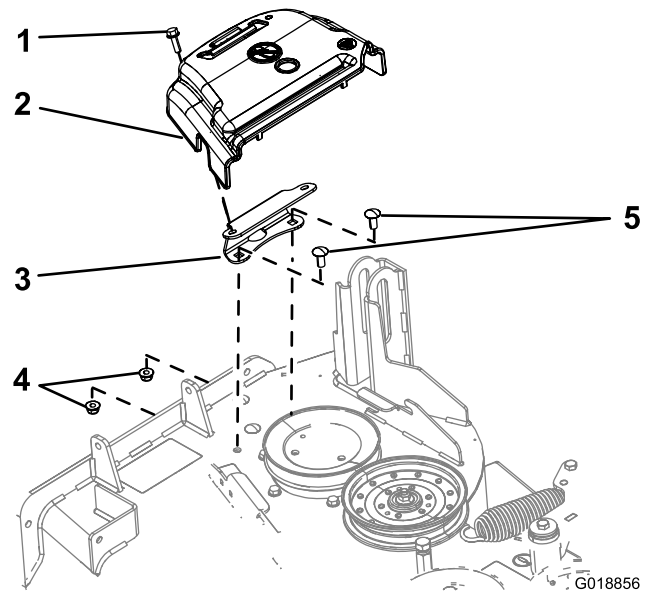

Figure 2
1. Rotate the bolt that secures the belt cover to the counterclockwise to loosen it (Figure 2).
2. Remove the OEM belt cover and bolt from the mounting bracket (Figure 2).
1. Remove the 2 bolts and 2 flange nuts that secure the cover mounting bracket to the deck (Figure 2).
1. Remove the 2 carriage bolts (1/4 x 3/4 inch) and 2 locknuts (1/4 inch) that secures the belt cover bracket to the forward flange of the mower deck (Figure 2).
2. Remove the belt cover bracket from the mower deck (Figure 2).